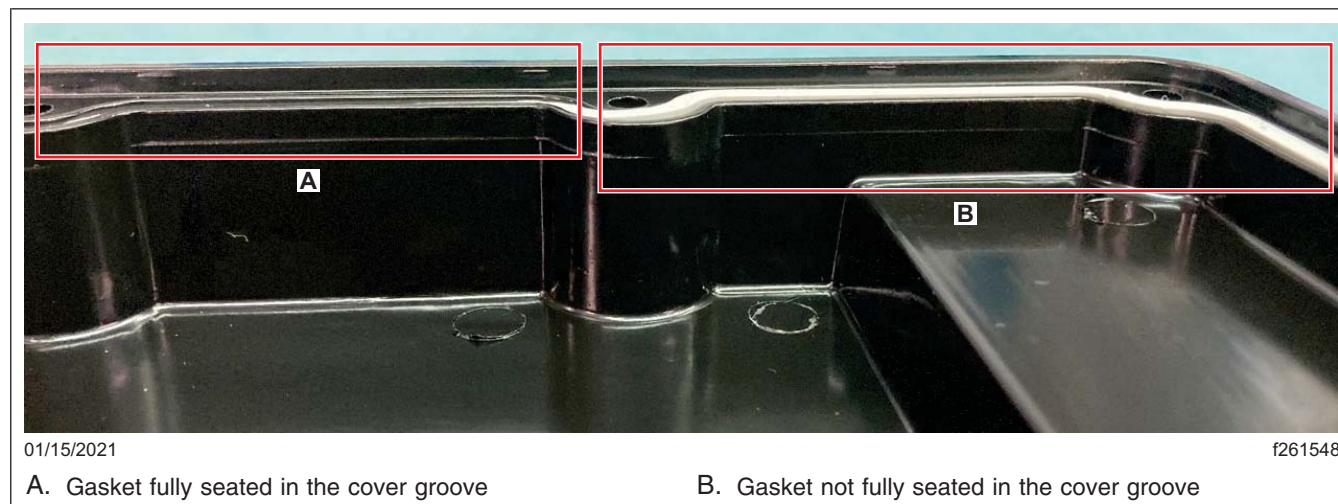

Fig. 4, Example of Correct and Incorrect Seating of Gasket
13. Confirm the gasket is properly seated into the groove on the cover. If the gasket is damaged, replace it. See Fig. 4.